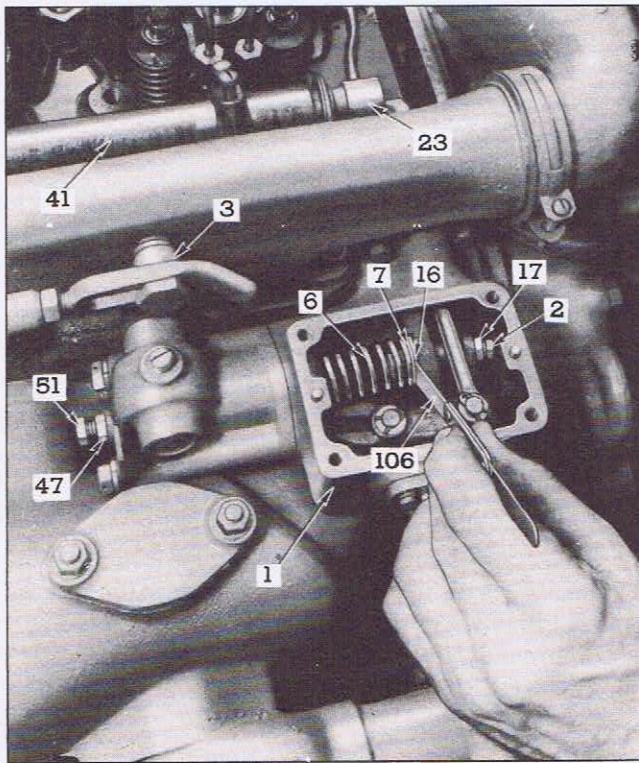

FIG. 10—ADJUSTING SPRING PLUNGER GAP ON VARIABLE SPEED GOVERNOR.
engine "shut down", as outlined on pages 22 and 23, refer to Fig. 10 and adjust plunger gap as follows:
4. Set the governor speed control lever (1) in the IDLE position—all the way ahead—with control lever (6) still in RUN position.
5. If engine idle speed is unsatisfactory, loosen lock nut (47), Fig. 10, and turn adjusting screw (51) IN to increase or OUT to decrease engine speed. Tighten lock nut.